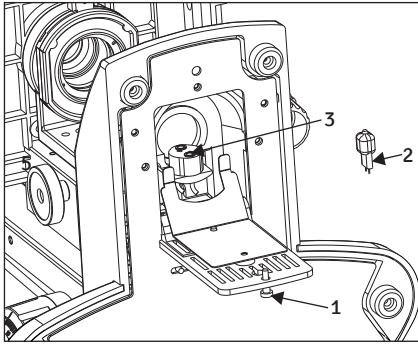

Fig. 2
1. Pull the lock knob (1) on the bottom to open lamp housing door (fig.2).
2. Hold the halogen bulb (2) without taking it out of the polyethylene bag so as not to taint the bulb with fingerprints and push the bulb into the pin holes on the socket (3). After attaching, remove the polyethylene bag.